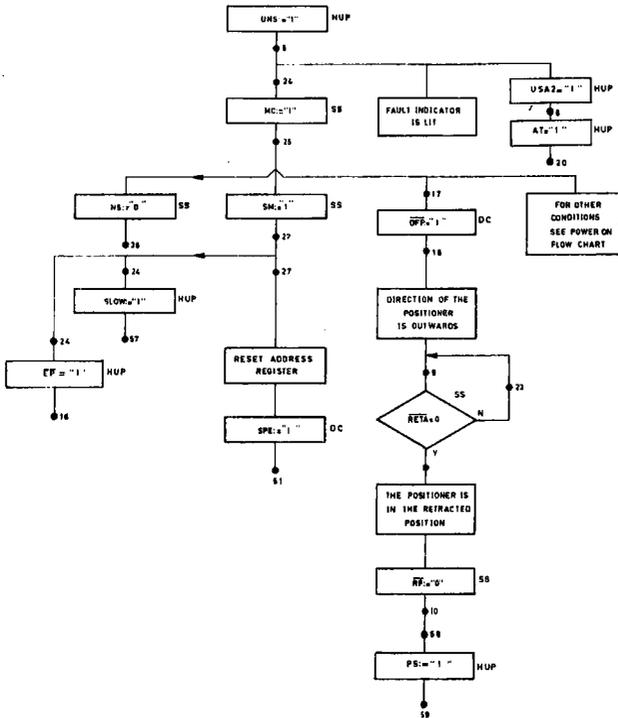

Figure 3-26 GO TO RETRACTED POSITION
7.9 GO TO RETRACTED POSITION SEEK (Figure 3-26)